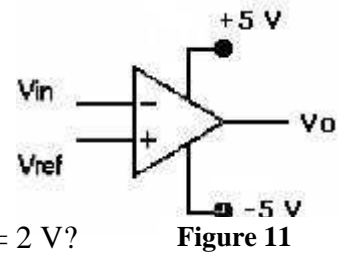

Figure 11
- 1- Refer to Figure 11, set  $V_{ref} = 0 \text{ V (DC)}$ ,  $V_{in} = 10\text{V}_{p-p}$ ,  $1 \text{ kHz}$ .
- 4- Set  $V_{ref} = 2 \text{ V (DC)}$  and repeat steps 2 and 3.